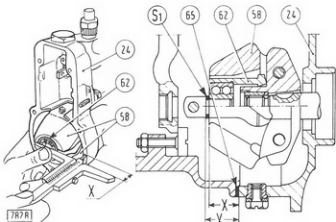

Fig. 47 - Checking Thrust Sleeve Position Relative to the Governor Body
On reassembly, check the distance from thrust sleeve (62, Fig. 47) to governor body (24) with gasket (65) removed.